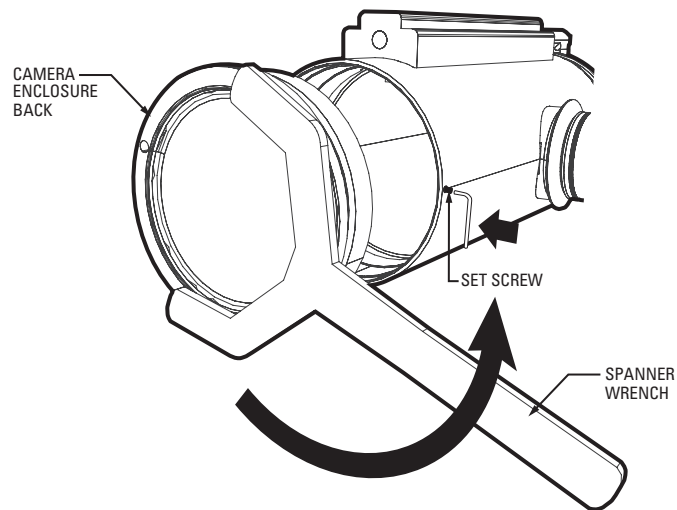

Figure 12. Remove Back Cap of Camera Enclosure
1. Remove the back cap of the camera enclosure. Refer to Figure 12 and do the following: